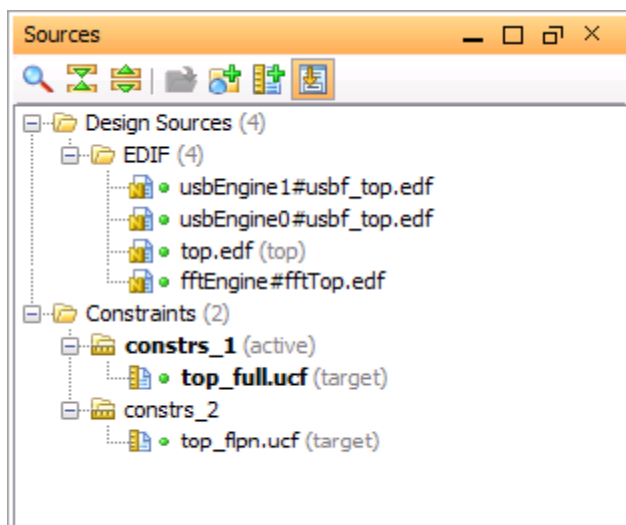

Figure 3: Sources View with Constrs_1
- 1-1-3. In the PlanAhead main window, ensure that the Constraints `constrs_1> top_full.ucf` is active (Figure 3).